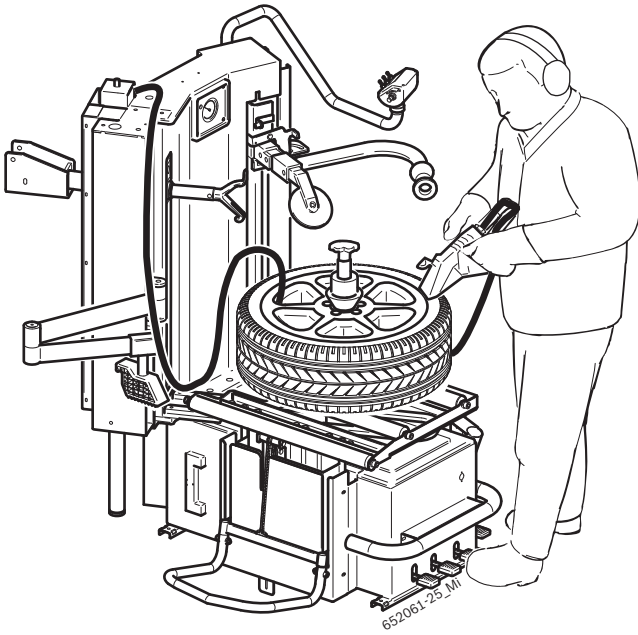

Fig. 10: Inflation with tire inflator and tire quick inflation device.
6. Insert the inflation gun between the edge of the rim and the upper bead of the tire (Fig. 10).